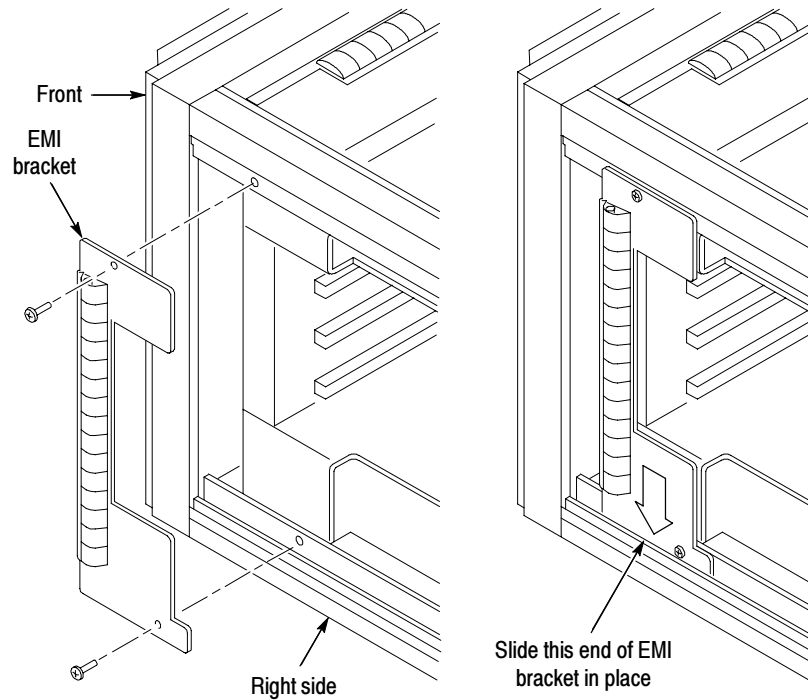

Figure 7: Right side EMI bracket installation
1. Position the measurement set so that you face the right side (see Figure 7).
2. Remove the two screws nearest the front of the measurement set (See Figure 7).
3. Position the bottom edge of the EMI bracket (see right side of Figure 7) inside the lower lip of the measurement set frame.
4. Align the EMI bracket to the screw holes in the measurement set. Attach and tighten the two screws as shown in Figure 7.